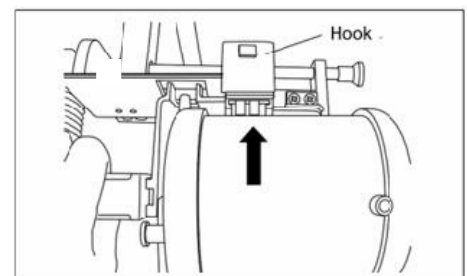

Figure 5
③ Insert the rim of back side of the oxygenator into the fixed hook of the holder (XX*EB04), and push forward and set the oxygenator (Figure 5).